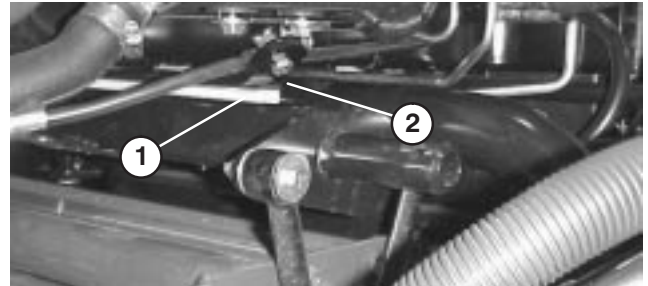

Figure 27
3. Start engine, raise lift arms and check to make sure clearance between wear strap on top of rear cutting unit wear bar and bumper strap is .020" – .100" (Fig. 27). If clearance is not in this range, adjust rear cylinder to attain clearance. To adjust cylinder, lower the cutting units and back off the jam nut on the cylinder (Fig. 28). Grasp cylinder rod close to the nut with a pliers and rag and rotate the rod. Raise the cutting units and check clearance. Repeat procedure if required. Tighten clevis jam nut.